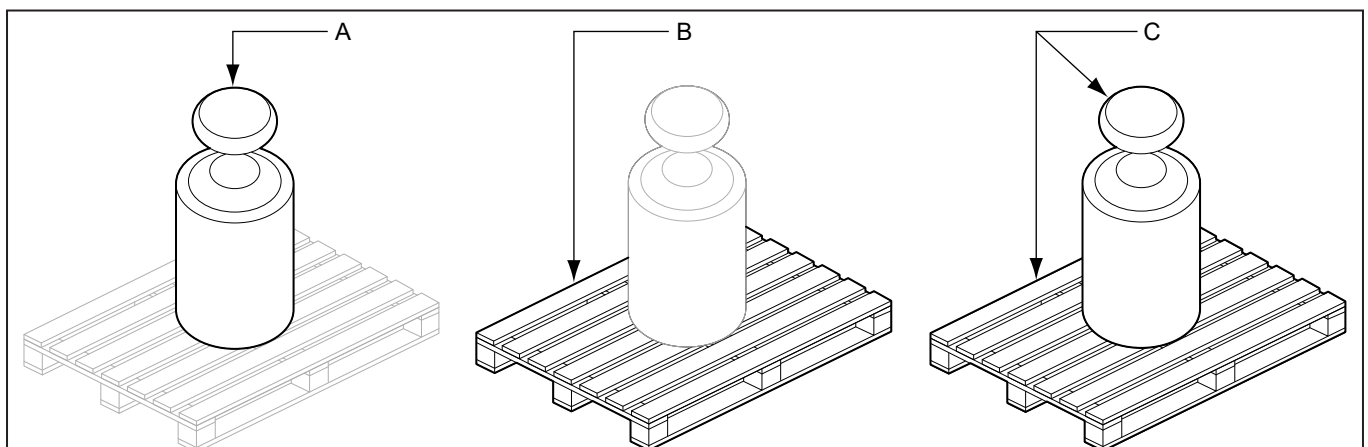

Figure 4 Net, Tare, and Gross Weight Calculation
The tare function allows the weight of a pallet or container to be stored and deducted from the total weight. The display then indicates the net weight of the load. Gross weight (C) equals the net weight (A) plus the tare weight (B). Refer to *Figure 4* for details.